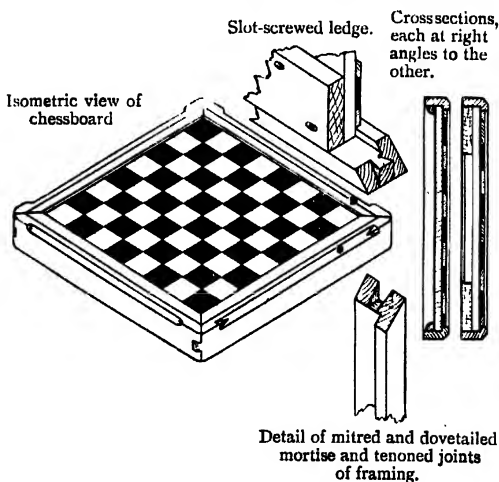

FIG. 104.—CHESS-BOARD.
*Drawing.*—The illustrations shown in Fig. 104 are suggestions for making a Chess-Board.